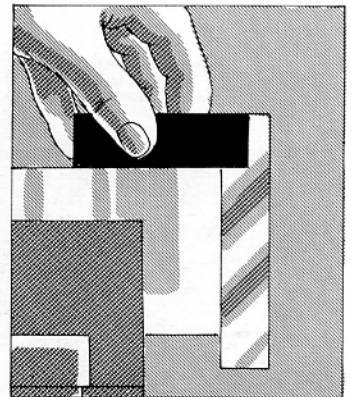

FIG. 312
12. Test the work with a steel square as shown in Figure 312 to see if the end has been planed square (at right angles) to the upper surface.